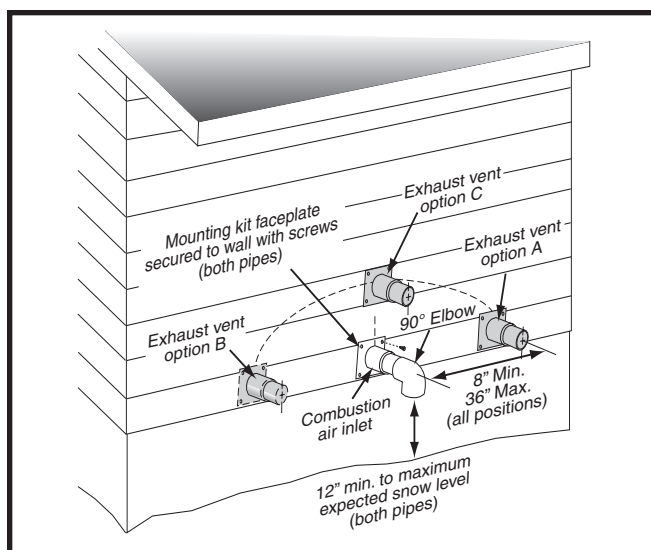
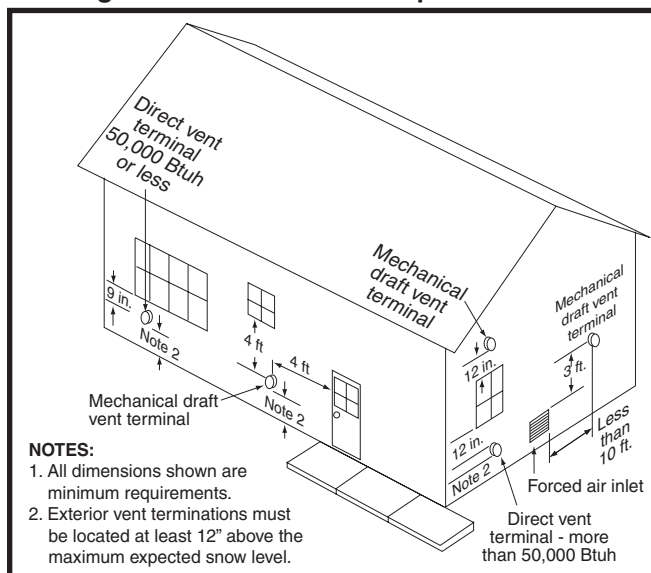
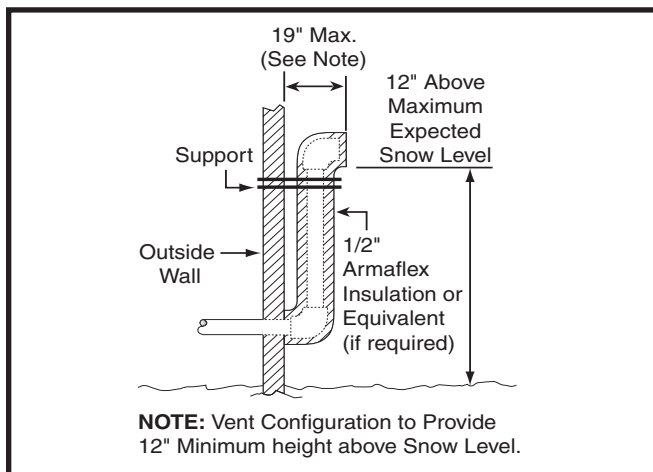

Figure 7. Inlet & Exhaust Pipe Clearances
Figure 8. Vent Locations
Figure 9. Alternate Horizontal Vent Installation
- Vent and combustion air intake terminations shall be installed as shown in Figure 7 & Figure 8 and in accordance with these instructions:
- All minimum clearances must be maintained to protect building materials from degradation by flue gases. See (Figure 8).
- When the vent pipe must exit an exterior wall close to the grade or expected snow level where it is not possible to obtain clearances shown in Figure 7, a riser may be provided as shown in Figure 9 \(page 12\). Insulation is required to prevent freezing of this section of pipe. See Table 3 \(page 15\) for vent freezing protection.